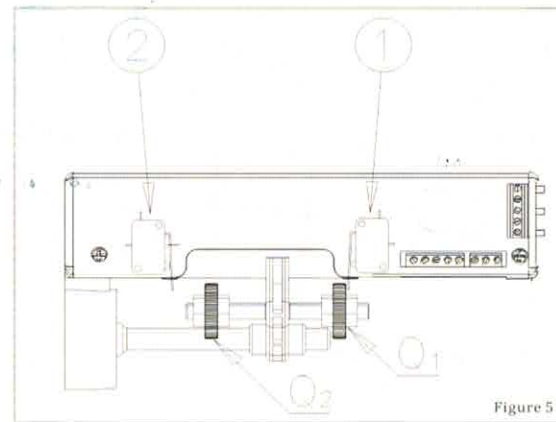

Figure 5
- 18) After having installed the mechanical parts and electrical connections, proceed to the regulation of the limit switches as shown in figure 5.